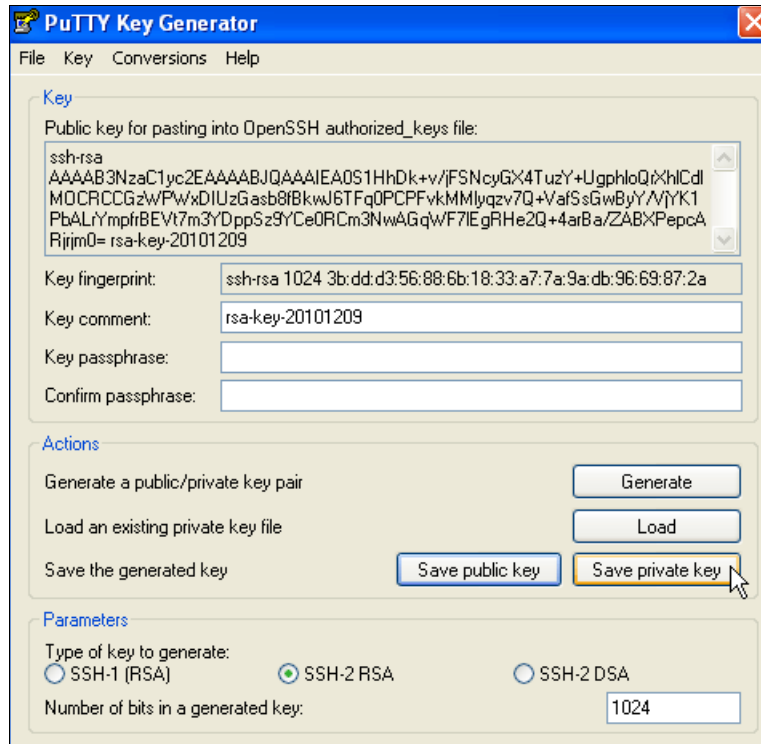

Figure A-4 Save private key
6. Click **Save private key**, as shown in Figure A-4.